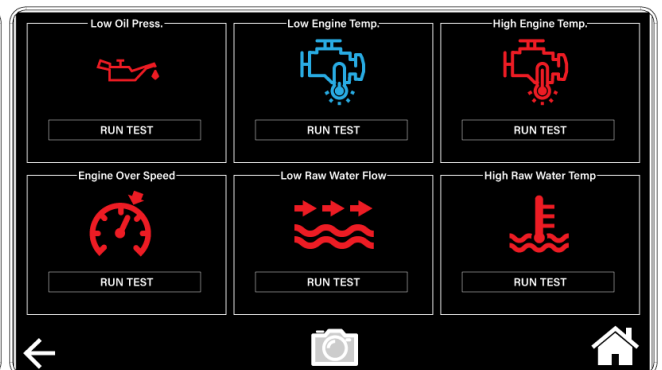

Figure 3-12
- 3.3.1.7. Navigating to the verification tests screen after all six alarm verifications have been performed and with the engine running at normal pump conditions\*, selecting **Snapshot** (Figure 3-12) will record and timestamp all engine parameters and alarm statuses. The snapshot data will serve as proof of engine running conditions during commissioning. The initial snapshot will change the icon from black to white. (\*Normal pump conditions: Engine RPM set at a speed that the pump is producing 100% flow.)